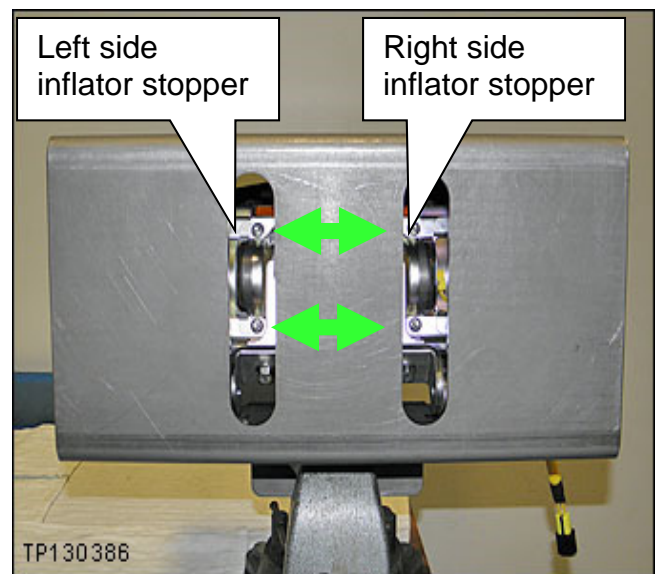

Figure 37
33. Remove the four (4) nuts from the module that hold the inflator in place (Figure 36 and Figure 37).